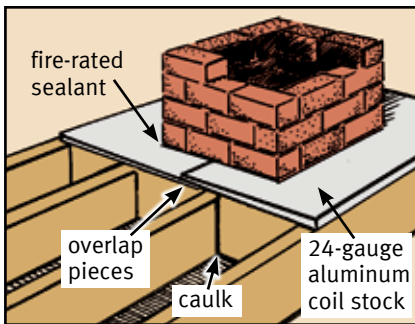

Figure 11 - Chimney
- **Chimneys.** Most newer homes have metal chimneys. The collar around this type of chimney may be loose or may not cover the entire opening. Repair the collar as necessary, and seal around the chimney and framing with fire-rated sealant. Older homes may have an open gap between the brick chimney and the wood framing (see Figure 11).